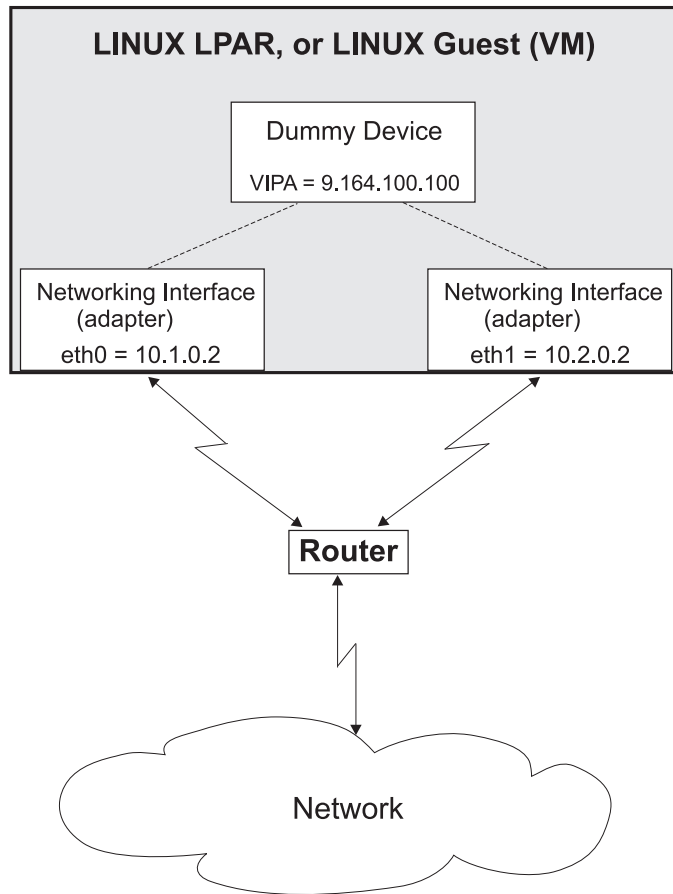

Figure 16. Example of using Virtual IP Address (VIPA)
- Static routing (shown in the example of Figure 16 on page 236).
Figure 16 shows the network adapter configuration used in the example.